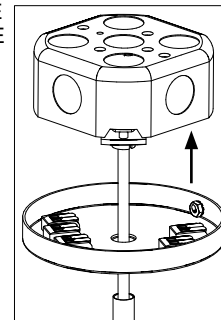
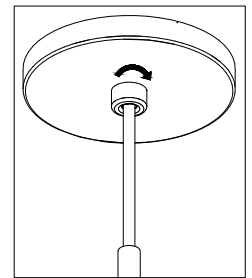

Figure 3: Base Mounting [2/2]
Figure 4: Canopy Mounting
6. Reattached canopy cover by turning lock screw clockwise while pressing canopy cover firmly to base. [Figure 3] [Figure 4]